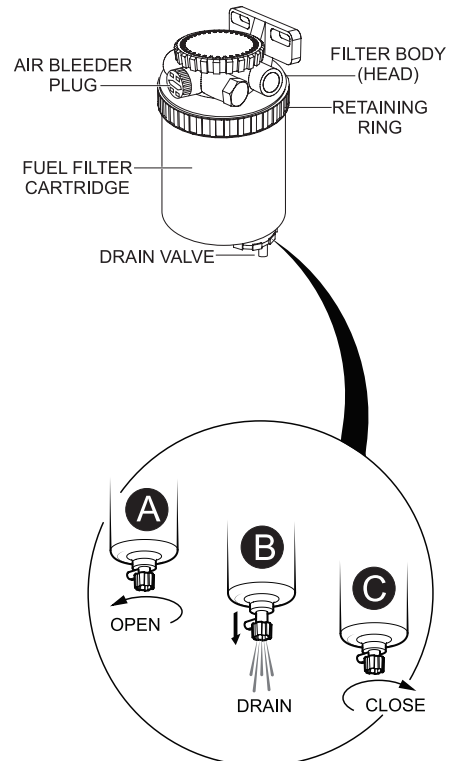

Figure 65. Draining The Fuel Filter
1. Loosen the air bleeder plug (Figure 65) on the fuel filter body.